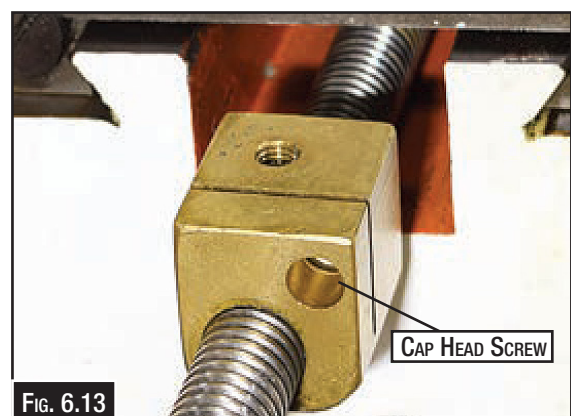

FIG. 6.13
3. With a long hex key in the cap head screw, make only small adjustment. Operating the cross slide several times by hand to be sure of smooth operation throughout the travel. (Fig. 6.13)